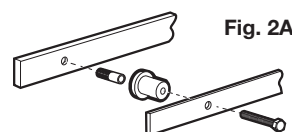

Figure 2A
Drill pilot hole. Insert lag bolt through first track hole, then place the track spacer through the bolt on back of the track. Install the lag bolt with 1/2" socket ratchet. Do not tighten fully. Swing the track up and use the level to ensure the track is straight. Mark the remaining holes in the track. Drill remaining pilot holes. Slide the door stopper (T) onto the track for the end of the track where you installed the first bolt so it is between the first and second holes on that end of the track. Install the center bolt and spacer on the track. Install the remaining bolts and spacers. Go back and full tighten the first bolt. Slide the remaining stopper onto the other end of the track. Do not set either stopper at this point. Refer to Figures 2A, 2B & 2C.